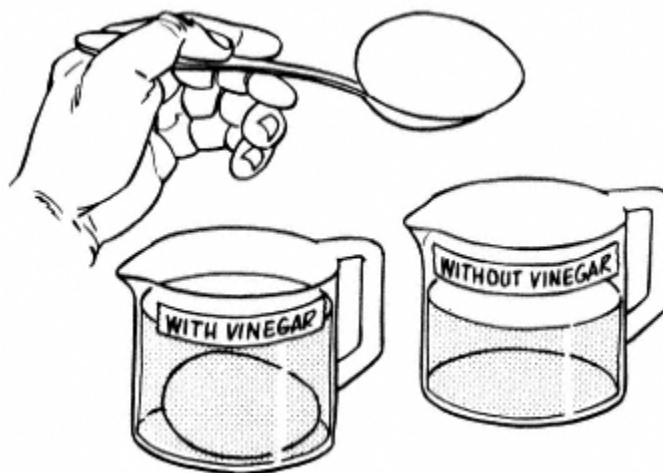

Figure 17.1
7. Use the large spoon to place one egg in each of the cups (see Figure 17.1).